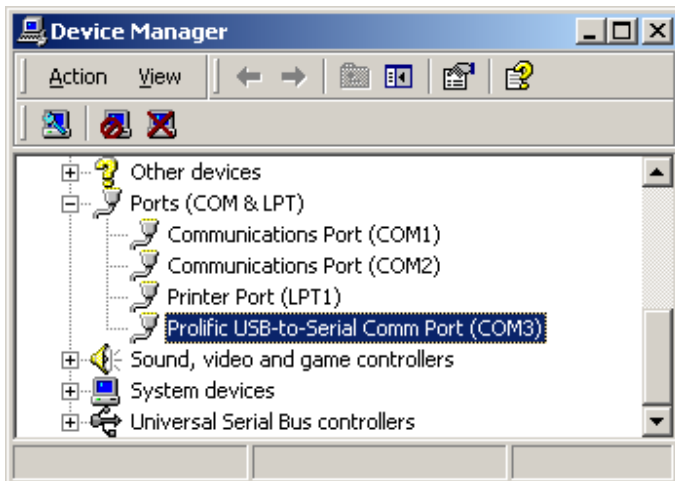

Figure 9: Select Port (COM& LPT)
(1) Please click on the **Device Manager\ Devices by connection \ ports (COM & LPT)**. (Figure 9)